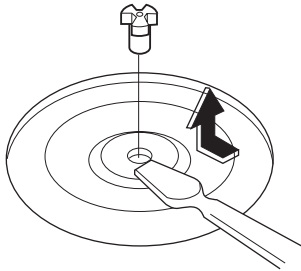

Figure 18
- (2) Carefully pull the ventilation motor assembly out of the microwave oven. (See Figure 18-b)
- (1) Remove the glass tray and rotating ring.
- (2) Remove the turntable shaft VERY CAREFULLY with one hand. (Figure 18)